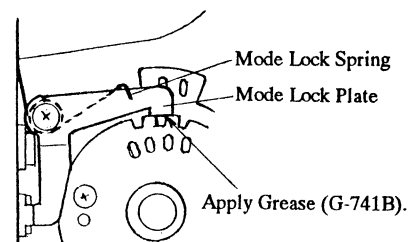

Fig. 22
- Install the Mode Lock Spring (1AU22700) in a way as shown in Fig. 22.